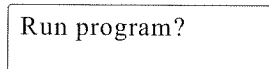

Figure 3-1
1. Press the  key to record a program. The LCD screen displays the message as in figure 3-1.